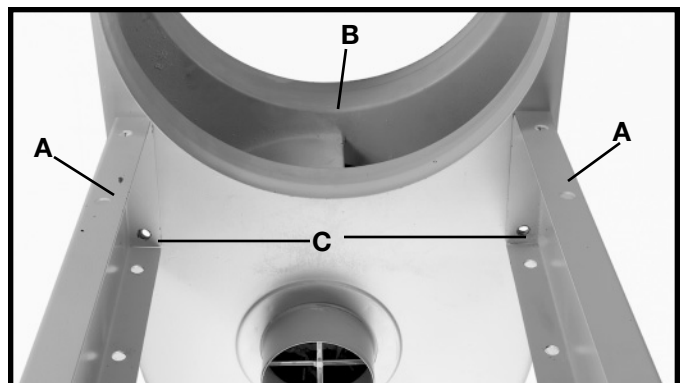

Fig. 8
2. Align the four holes, two shown at (C), on the top of the side supports (A) Fig. 8, with the four holes in the motor assembly (B).